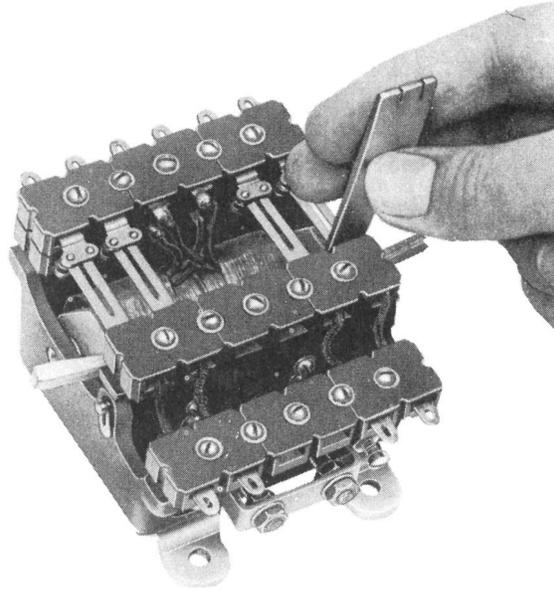
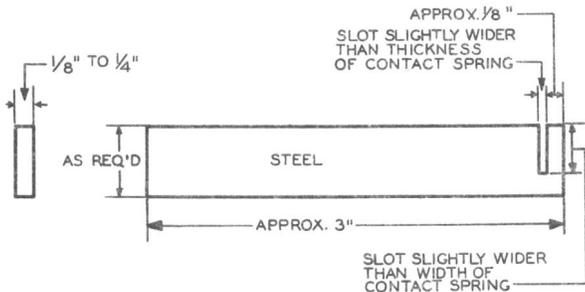
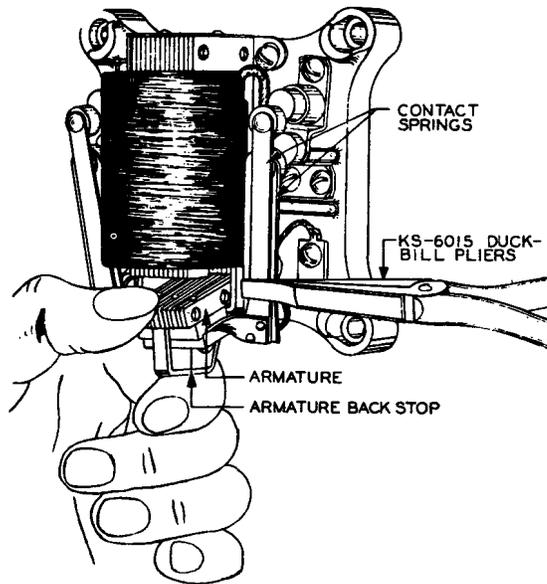

Fig. 7 - Method of Adjusting Contact Springs Using T-40010 or Fig. 6 Tool and Method of Blocking KS-5635 Relay Operated
Fig. 6 - Method of Making Adjusting Tool
Fig. 8 - Method of Adjusting for Contact Pressure and Contact Sequence
(The Signal Engineering and Manufacturing Company's T-40010 tool is suggested where a large number of split springs, other than those on KS-5635 relay, are to be adjusted or where access to springs from the side is impossible. A similar tool can be made as shown in Fig. 6 for use on KS-5635 relays and on relays not having split springs.)
(b) For this work duck-bill pliers, No. 363 tool having 0.018-inch straight slot, No. 356 tool having 1/16-inch and 0.025-inch, 90-degree slots, T-40010 tool shown in Fig. 7, or a tool made locally per Fig. 6 should be selected, depending on number, size, and location of springs to be adjusted, location of relay, and adjacent apparatus, etc. With heavy springs such as found on E-type relays, pliers must be used even if this makes removal of the relay from the panel necessary. For the
inside springs of KS-5635 relays, No. 356 tool, T-40010 tool, or a tool per Fig. 6 is preferred. For the inside spring of A-type relays, the T-40010 tool is most convenient. The use of T-40010 tool and tool per Fig. 6 is illustrated in Fig. 7.
(1) On relays not having split springs, adjust for contact sequence as required with the duck-bill pliers. To do this, place the pliers at a point about 1/4 inch from the point where the spring is riveted to the armature as shown in Fig. 8 and adjust the spring at this point, as required. When access to the springs from the side is impossible and for KS-5635 relays, follow 3.03(1)(b). When a satisfactory adjustment cannot be obtained in this manner, distribute the tension as outlined in 3.03(1). It is expected that no further adjustments will be necessary. However, on C-, D-, S-, SC-, SS-type, KS-5635, and KS-15601 relays, further adjustment can be made by changing the position of the stationary contacts as outlined in 3.03(2). If any adjustments are made, recheck alignment (2.03).
(2) **Normally Open Contacts:** While checking pressure on NO contacts the relay must be held or blocked operated. The KS-5635 relay can be blocked operated with a small wedge on each side of the armature, as shown in Fig. 7. If the pressure between contacts is not satisfactory, hold the armature against the backstop and increase the tension of the spring, adjusting it towards the contact by applying the KS-6015 duck-bill pliers close to the riveted base of the spring, as shown in Fig. 8. In adjusting the springs, exercise care not to twist them, since this will prevent the contacts from resting flat against each other. When access to the springs from the side is impossible, follow 3.03(1)(b). If the spring is bowed or bent, follow 3.03(1). If a satisfactory adjustment of split contacts cannot be obtained as outlined above, make further adjustments in accordance with 3.04(2). On KS-5635 and KS-15601 relays a further adjustment can be made as outlined in 3.06(5). If any adjustments are made, recheck alignment (2.03) and sequence (2.04).